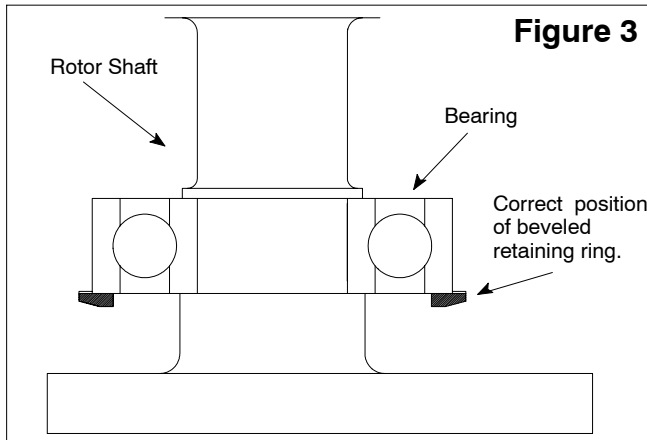

Figure 3
- 8.1.3 Make sure beveled retaining ring (item 32) is correctly installed. *Refer to Figure 3.*